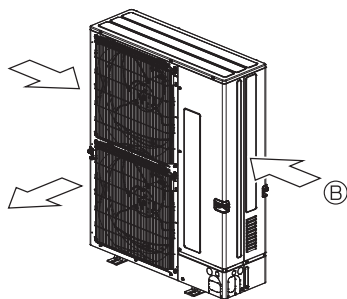

Fig. 2-6
- ③ Position the unit so that the air outlet blows perpendicularly to the seasonal wind direction, if possible. (Fig. 2-6)